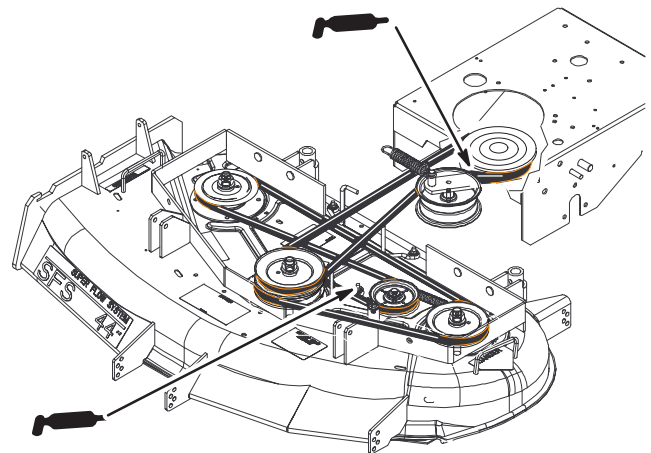

Figure 28
2. Grease the idler pulley pivot for the deck belt (Fig. 28).
3. Grease the idler pulley pivot for the PTO drive belt (Fig. 28).